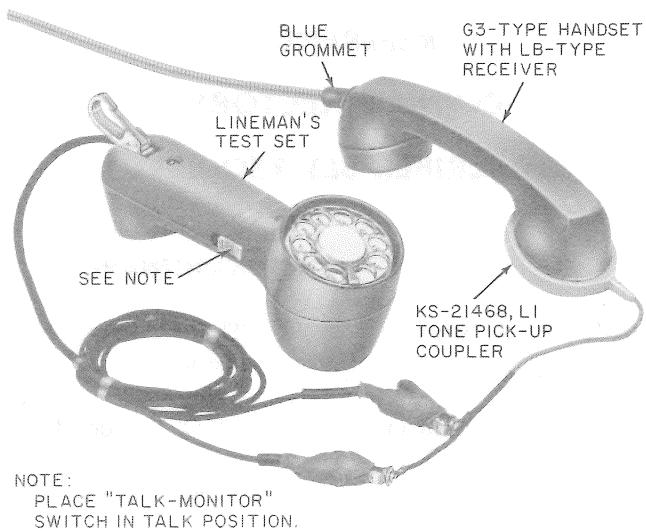

Fig. 35.1—KS-21468, List 1 Tone Pick-up Coupler
- (b) Fig. 35.1—added
- (1) Place a KS-21468, List 1 tone pick-up coupler (Fig. 35.1) around the receiver cap of handset.
- (2) Clip a lineman's test set to the two tone coupler terminals.
- (3) Place the TALK-MONITOR switch in the TALK position.
- (4) Dial the 1000 Hz test number from the coin telephone set then listen in the test set receiver for the 1000 Hz tone.
- (5) If the tone is not present, the field coil adapter is defective and the coin phone handset should be replaced.